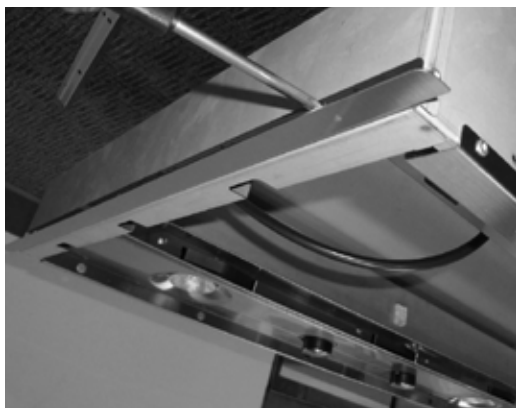

FIGURE 15
2. Remove the white plastic covering and Install the 4 side trim pieces to the outside of the hood using (16) part 9b screws, see the side trim installation in (FIGURE 15).